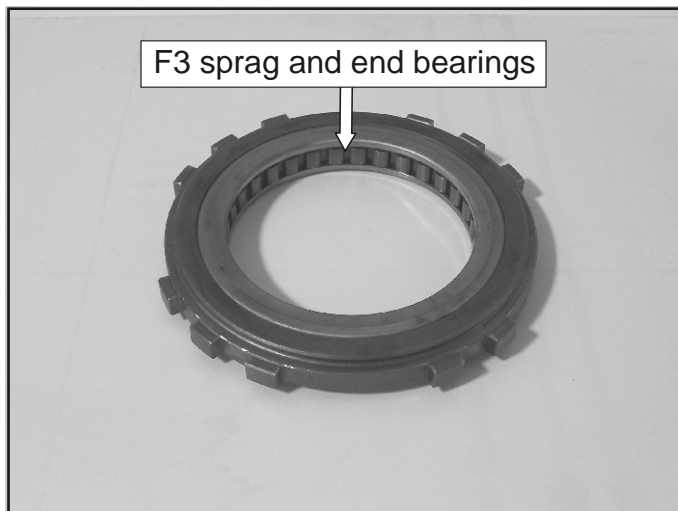

Figure 149
- 95. Remove the F3 sprag and end bearings from the outer race as shown in Figure 149.